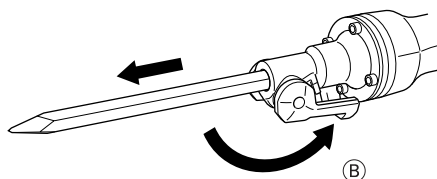

Fig. 7
- (3) Clamp the accessory into place by bringing the retainer to clamp position (B). To make sure that the accessory is properly mounted, pull on the accessory. (Fig. 7)